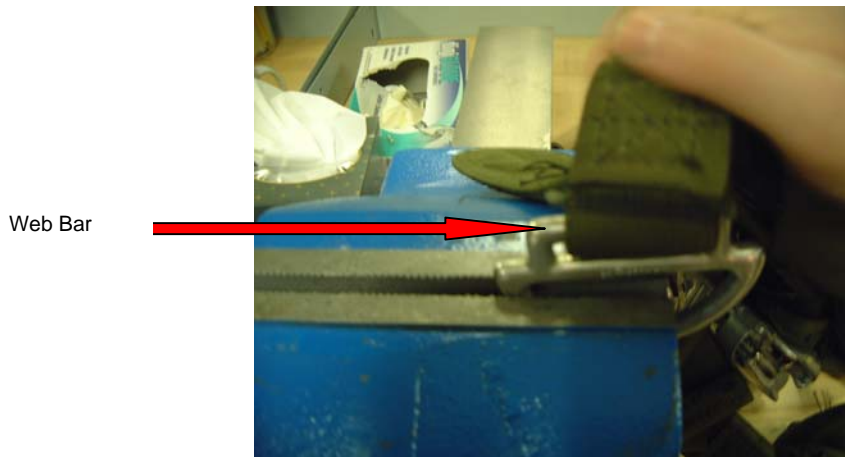

FIGURE 6
(1) Inspect D-ring in accordance with 10a. (1) above.
(2) Locate the existing D-rings on the main lift web of the parachute harness (either left or right). Position the D-ring in such a way as to expose the web bar leg and secure in a vise or other securing device (Figure 6).